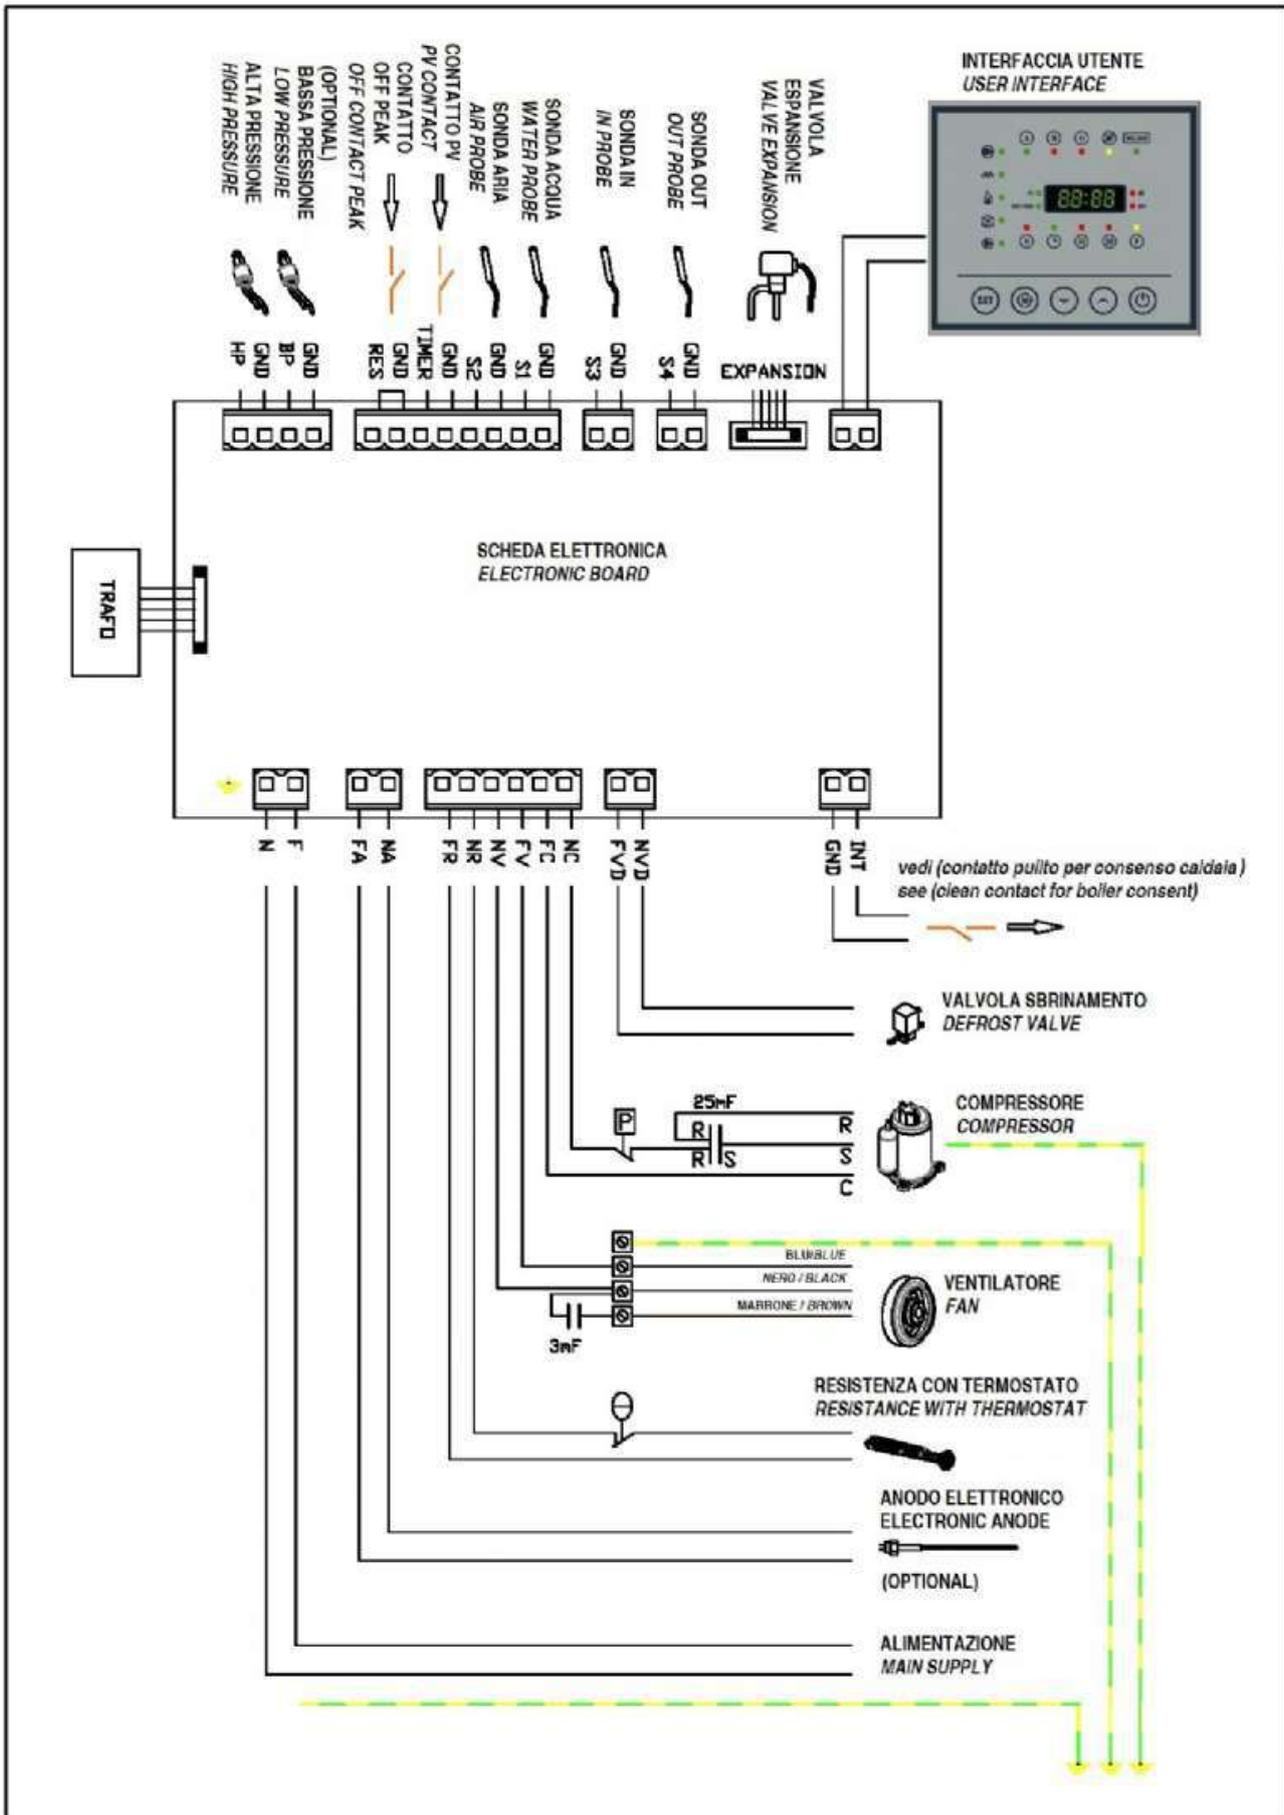

Fig. 10
SCHEDA ELETTRONICA (FIG. 10)
ELECTRONIC BOARD (FIG. 10)
**INGRESSI / USCITE SCHEDA ELETTRONICA (FIG.10)****INGRESSI DIGITALI**
**ELECTRONIC CARD INPUTS / OUTPUTS (FIG.10)****DIGITAL INPUTS**